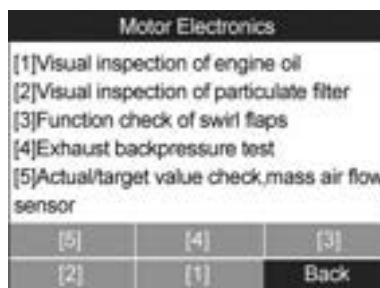

Figure 11.29
- a) From the particle filter test menu (*Figure 11.29*) use the **LEFT/RIGHT** scroll button to select **[1]** and press the **OK** button.
- a) From the particle filter test menu (Figure 11.29) use the **LEFT/RIGHT** scroll button to select **[2]** and press the **OK** button.
- a) From the particle filter test menu (Figure 11.29) use the **LEFT/RIGHT** scroll button to select **[3]** and press the **OK** button.
- a) From the particle filter test menu (Figure 11.29) use the **LEFT/RIGHT** scroll button to select **[4]** and press the **OK** button.
- a) From the particle filter test menu (*Figure 11.29*) use the **LEFT/RIGHT** scroll button to select **[5]** and press the **OK** button.